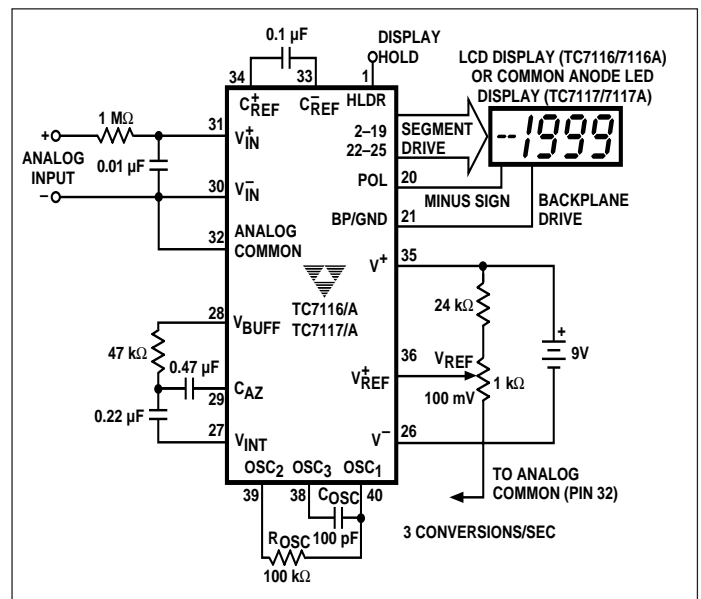

Figure 1. Typical TC7116/A/7/A Operating Circuit
3. Unless otherwise noted, specifications apply at TA = +25°C, fCLOCK = 48 kHz. TC7116/TC7116A and TC7117/TC7117A are tested in the circuit of Figure 1.